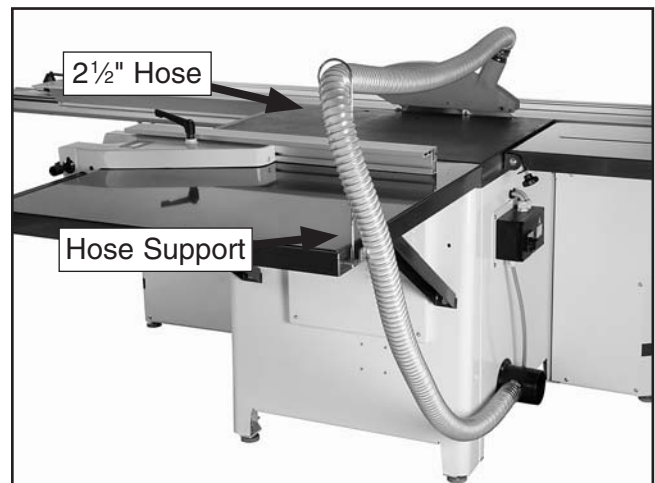

Figure 35. Dust hose support in use.
- 31.** Run the 2½" hose over the hose support, as shown in **Figure 35**.